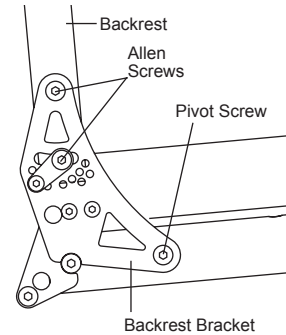

Figure 27
1. On both sides of the chair, tighten both Allen Screws shown in Figure 27.